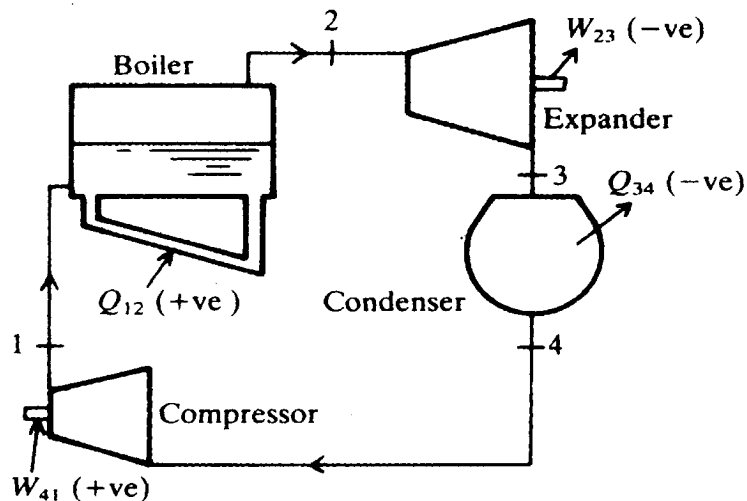

Fig Q5: Carnot Vapour Cycle
- (b) Calculate the cycle efficiency, work ratio, and specific steam consumption of the Carnot Cycle in Fig Q5. The pressure gauges show that the boiler and condenser pressures are 30bars and 0.04bar , respectively. The calorimetry tests revealed that the dryness fraction at states 3 and 4 are 0.716 and 0.276 respectively. Consider the following cases: